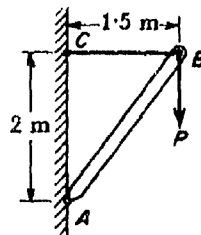

Fig.2 (b)
- (b) For the simple structure shown in Fig. 2(b), member BC is a steel wire having diameter $d = 3$ mm and member AB is a wood strut of 2.5cm-square cross-section. Calculate the horizontal and vertical components of the displacement of point B due to a vertical load $P = 200$ kg acting as shown. For steel, $E_s = 2\times 10^6$ kg/cm² for wood, $E_w = 10\times 10^4$ kg/cm².